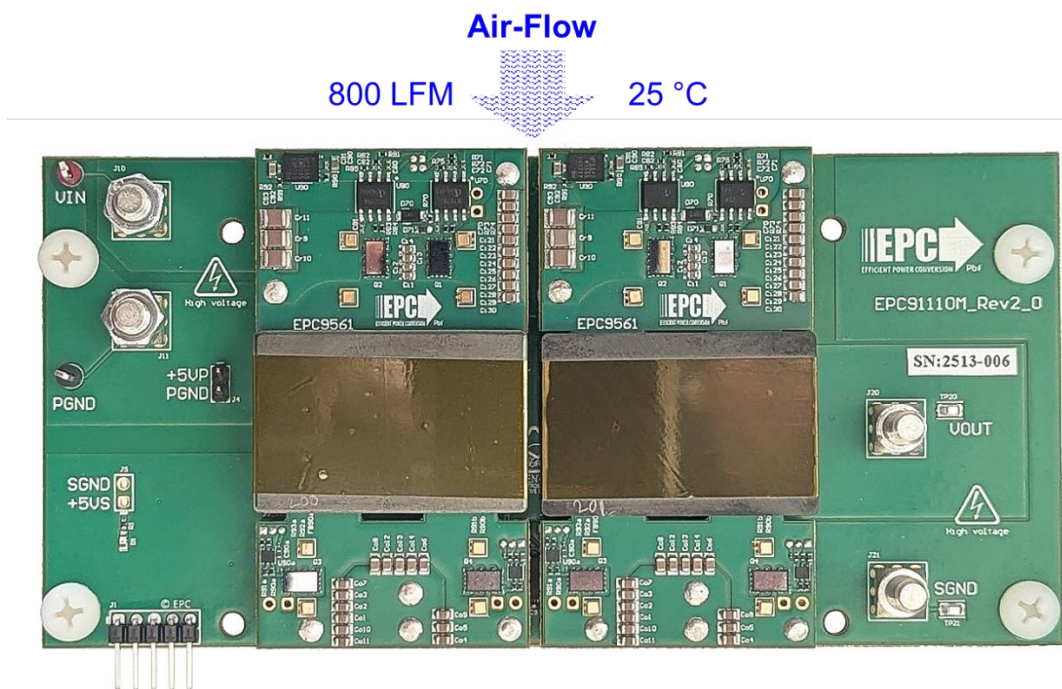

Figure 9: Recommended air-flow orientation for optimal cooling of the converter
The EPC91110KIT is not equipped with a heatsink, so caution must be taken when operating at high output power. **It is recommended to use high airflow over the top and bottom surfaces of the KIT while monitoring the FETs' temperature using a thermal camera.** Figure 9 shows the recommended airflow orientation for optimal cooling of the converter.
- 5) Place a high airflow fan (~800 LFM or more) as shown in Figure 9.